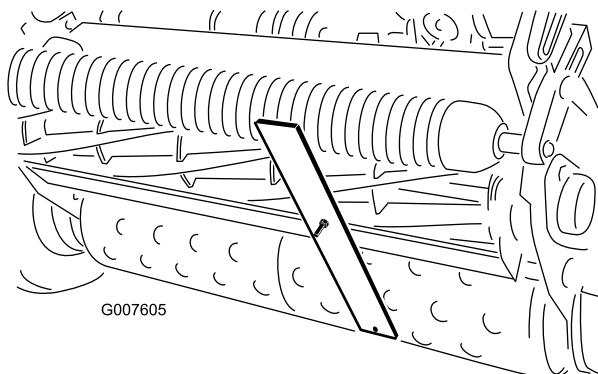

Figure 53
4. Hook the screw head on the cutting edge of the bedknife and rest the rear end of the bar on the rear roller (Figure 53).